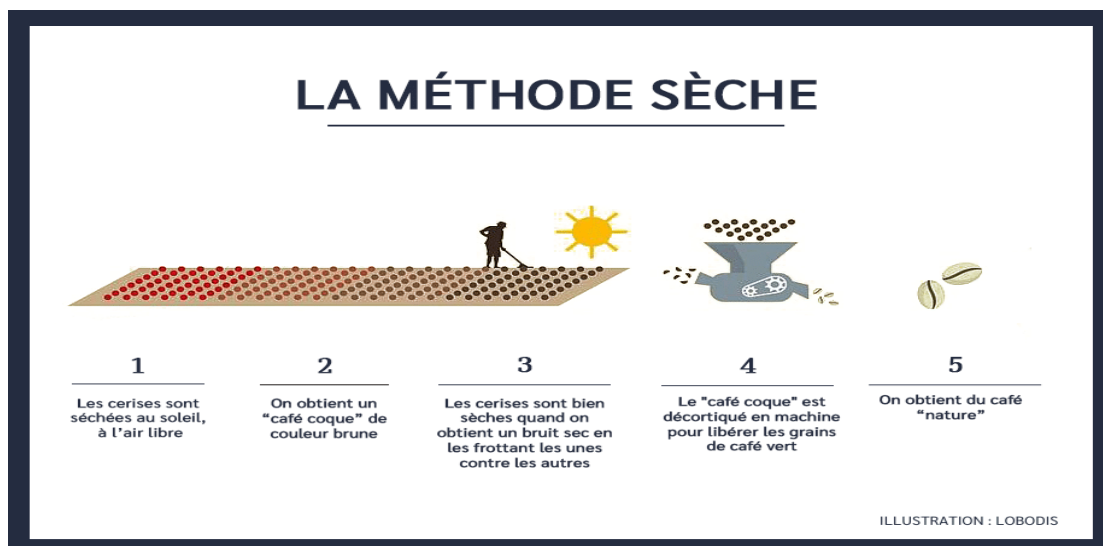

Figure 35 : Natural coffee preparation method
- This method is faster and significantly reduces water usage, addressing issues associated with wastewater disposal (figure 35).